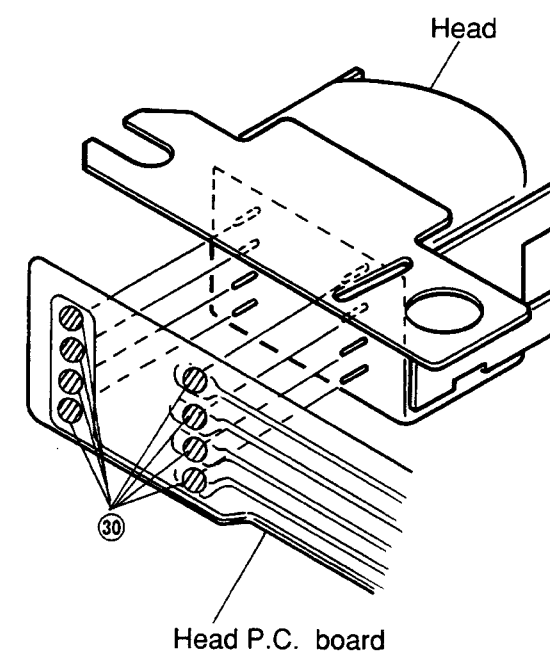

Figure 22
- (2) Remove solder ㉛ and remove the head from the head P.C. board as shown in Figure 22.
- (3) After replacement, mount the new head following the removal steps in the reverse order.